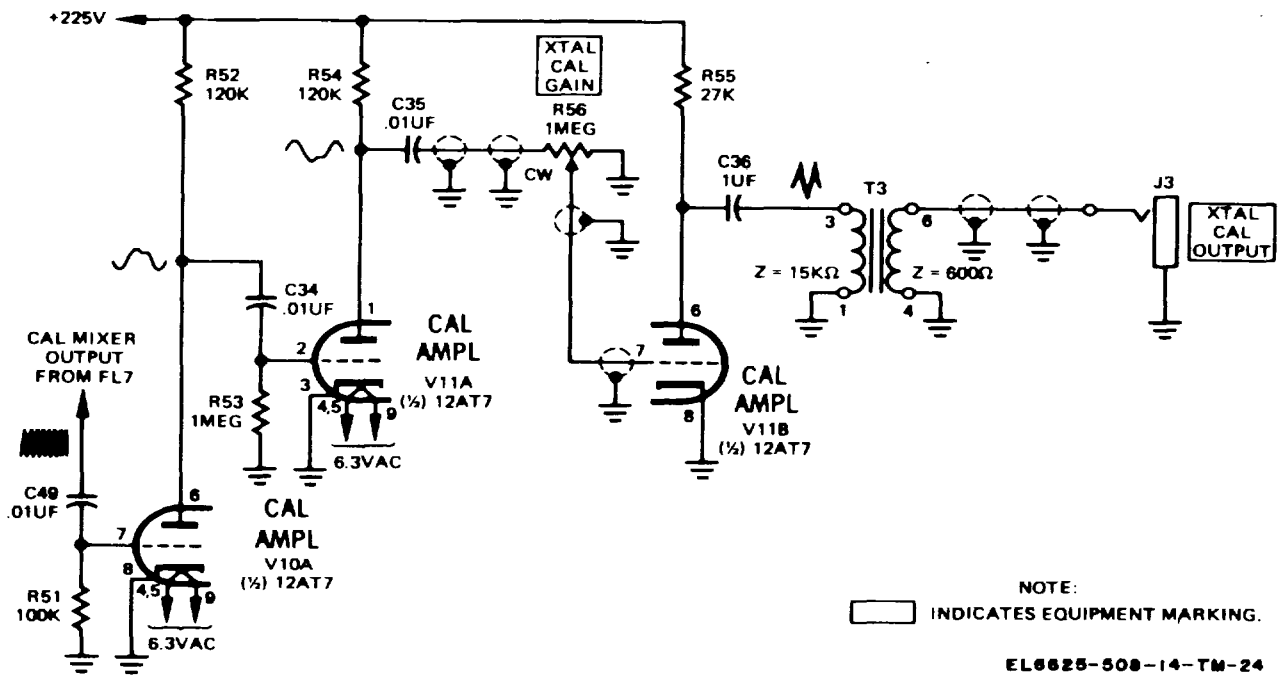

Figure 5-15. Calibrator-amplifier circuit, schematic diagram
a. The calibrator amplifier circuit (fig. 5-15) consists of vacuum tubes V10A and both sections of V11. Section B of V10 is not used; therefore, it is not shown in figure 5-15.